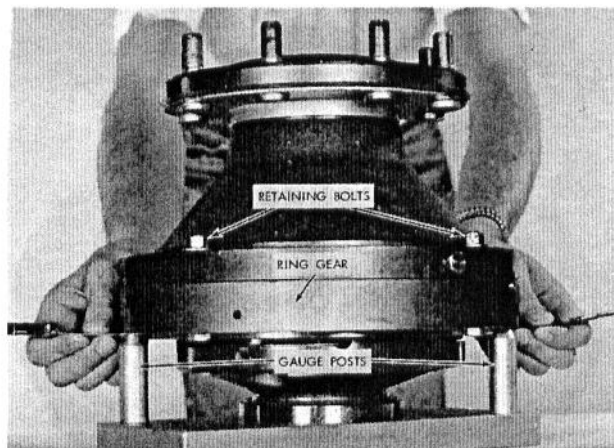

Fig. 51 - Measuring Gap between Ring Gear and Gauge Post - MFN267Y
7. Turn the planetary assembly over and seat the bearing cone in the cup as shown in Fig. 51.
8. Insert a feeler gauge between each gauge post and the ring gear and measure the gap. Use the same thickness feeler gauge in both positions. See Fig. 51. This gap should be from .005" thru .007" for proper bearing pre-load.